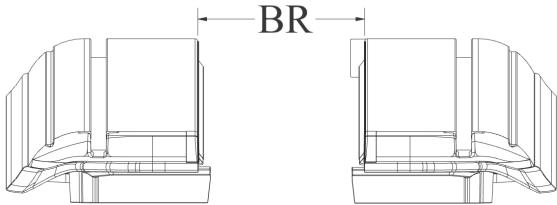
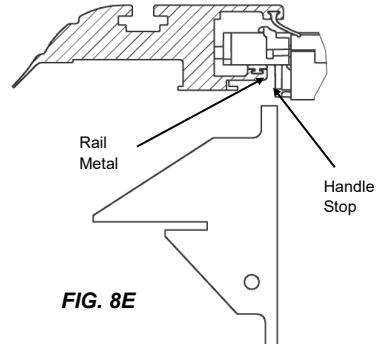

FIG. 8C
FIG. 8E
Now tighten your clamp turn knobs hand tight. Finally, check for proper spacing by measuring between the rails by attempting to insert the BR Gauge in between the rail metal and the handle stop (FIG 8E). You can also check the between the rail measurement at the canister and the tailgate end of the rails. The measurements should be equal to or less than those in Figure 8C. The Clamp Extensions have been pre-installed with brackets and shims to achieve the proper Between the Rail dimension (BR) when placed on an average factory truck bed. However, not all truck beds are average dimensionally and some have optional plastic caps or over the rail spray-in liners.